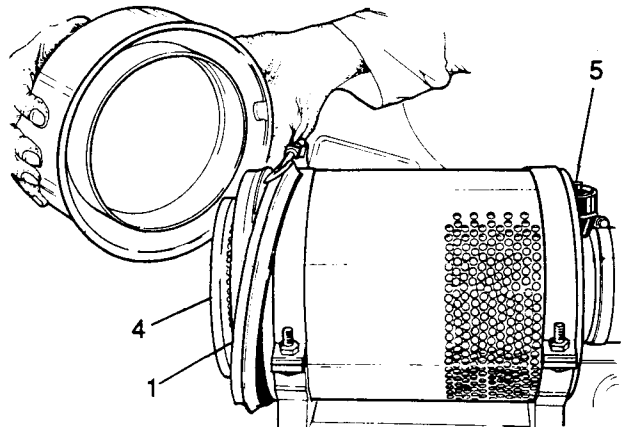

Fig G3.2
- (1) Refer to Fig G3.2. Unscrew the bolt holding the dust cup clamp (1). Remove the clamp and the dust cup.
- (2) Lift the baffle out of the dust cup.
- (3) Unscrew the wing nut and pull the element (4) and its gasket clear of the body assembly.